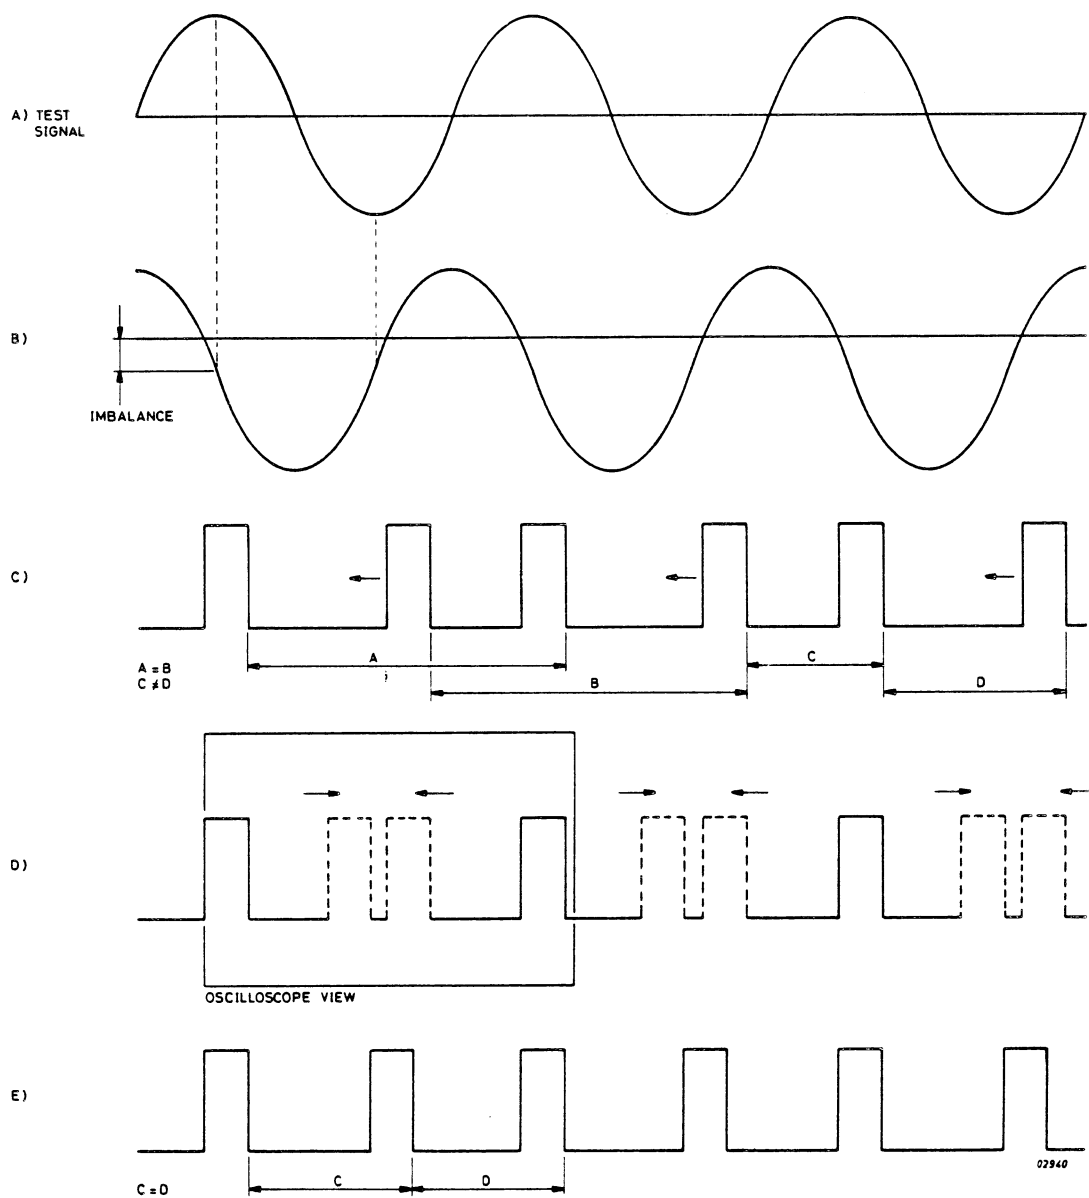

Figure 7.6 READ SYMMETRY ADJUSTMENT
7.2.7 READ SYMMETRY ADJUSTMENT (FIGURE 7.6)
- Adjust oscilloscope so that at least part of the triggering pulse is useable and also the next two pulses, as in figure 7.6-d.
Note: This adjustment is to counteract the effect of imbalance in the diode and FET network which connects the heads to the read amplifier. The imbalance effectively creates DC bias which causes the zero crossing points, even for a perfect input signal, to be recognised unequally (figure 7.6-b and c).
Every second pulse jittering as figure 7.6-'d'.
Steady picture with unequal displacement as figure 7.6-'c'.